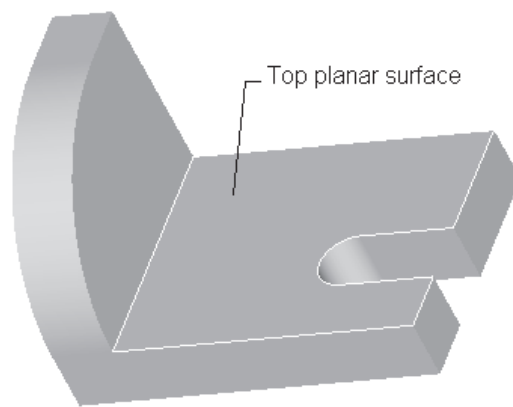

Figure 4-71 Surface selected to be at the top
6. Select **Top** from this menu and choose the top planar surface shown in Figure 4-71.